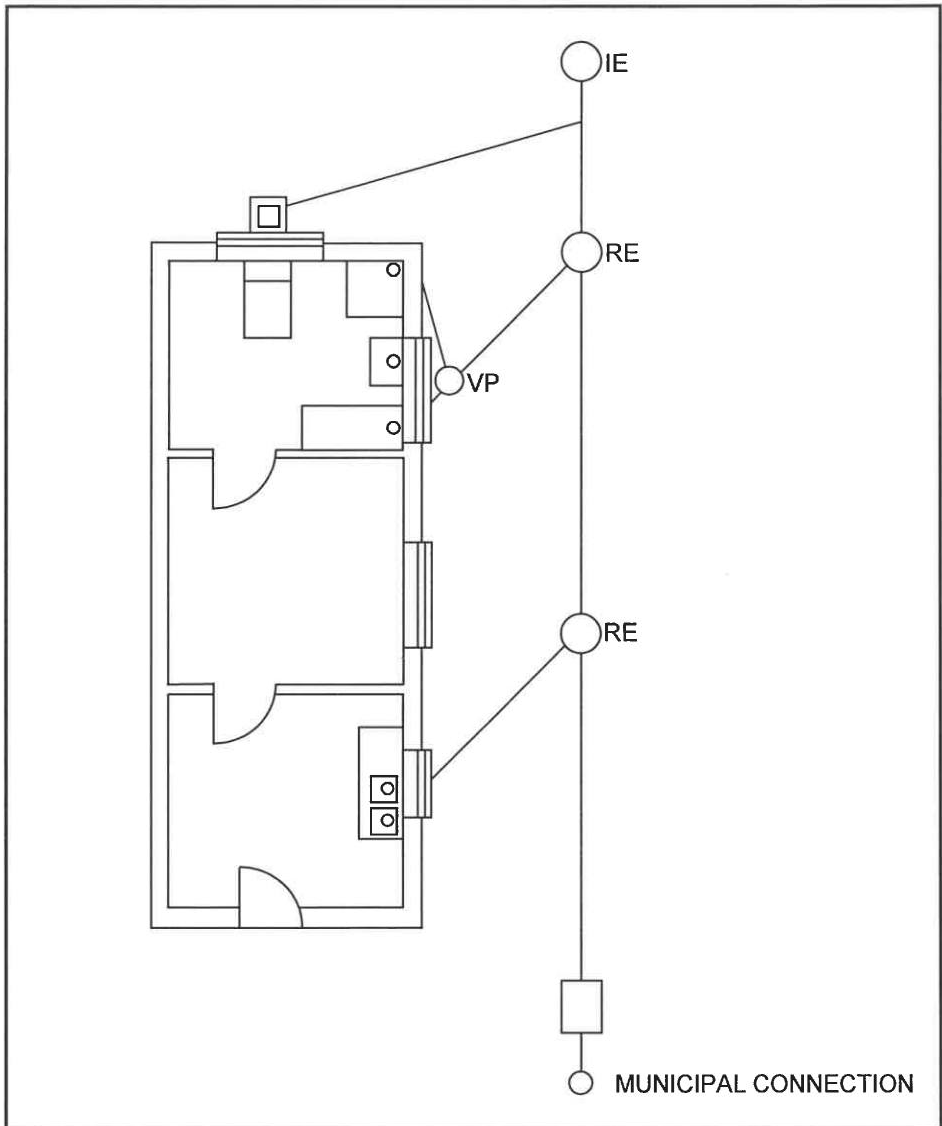

FIGURE 6.8
- 6.8 FIGURE 6.8 shows an incorrectly drawn sewerage plan of a dwelling. Use ANSWER SHEET 6.8 to design and draw a sewerage plan using correct drainage principles.